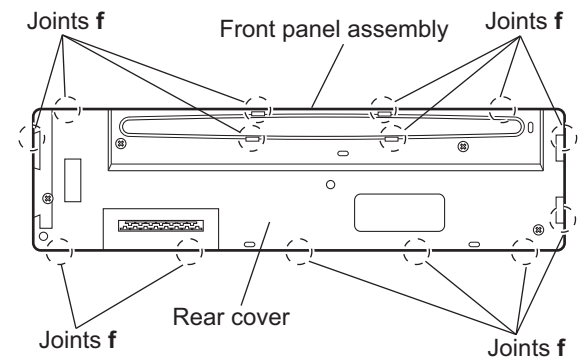

Fig.9
- (2) Release the fourteen joints f attaching the rear cover to the front panel assembly. (See Fig.9.)